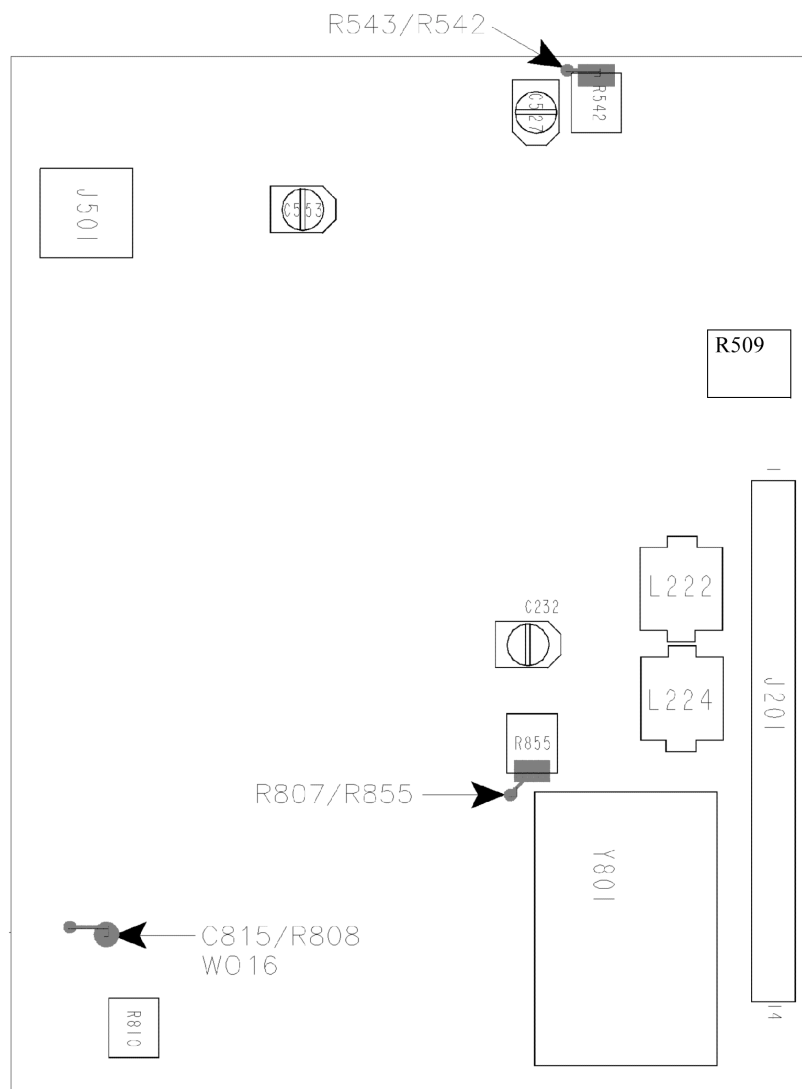

**Figure 6-3 ALIGNMENT POINTS DIAGRAM**
3. Connect a DC voltmeter at the junction of R808/C815 to measure the VCO control line voltage for a meter reading of  $\geq 0.50$  -  $\leq 4.90$ V DC (see Figure 6-3).